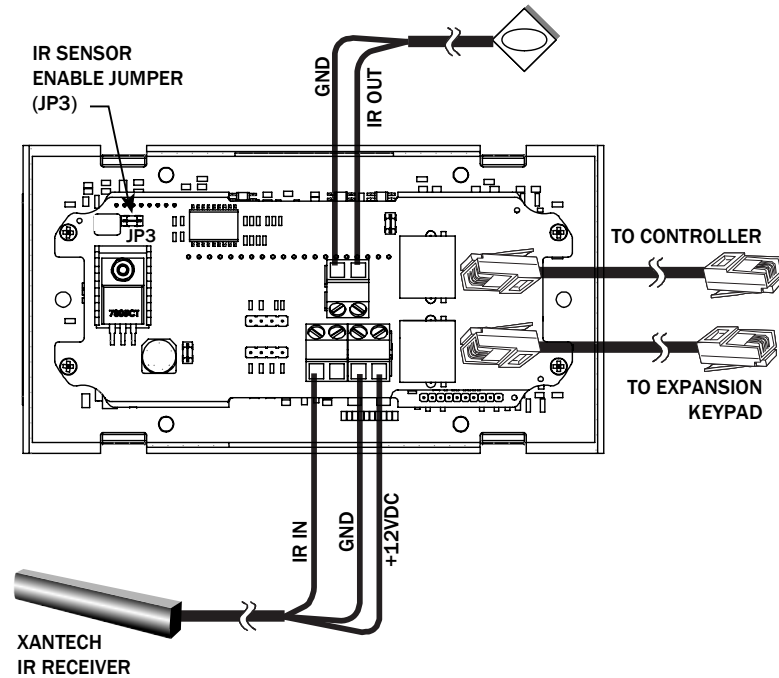

Figure 2.4: Rear connector board of MRKP2E Keypad
1. There are four keypads maximum per zone. Remove termination jumper on all keypads except for the last keypad (see location of JP1 on Fig 2.4). Each expansion keypad must each have its own unique address. (see Installer Settings menu on Section 4 of this manual).